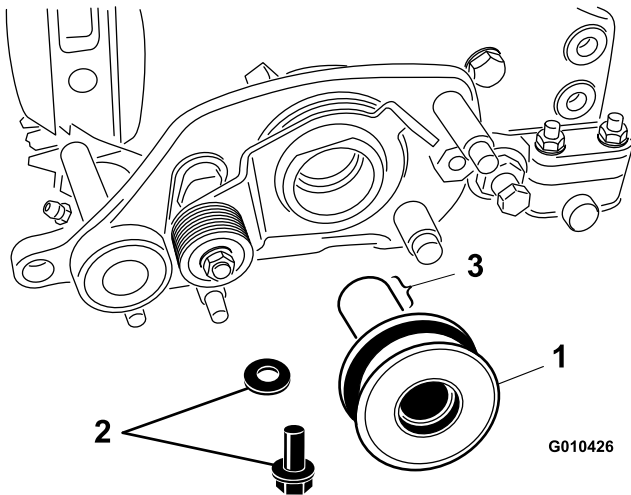

Figure 12
1. Apply grease to the internal spline and outer surface of the pulley assembly (Figure 12).
3. Secure the pulley assembly to the reel shaft with a bolt (M6-1 x 20 mm) and washer (Figure 12).